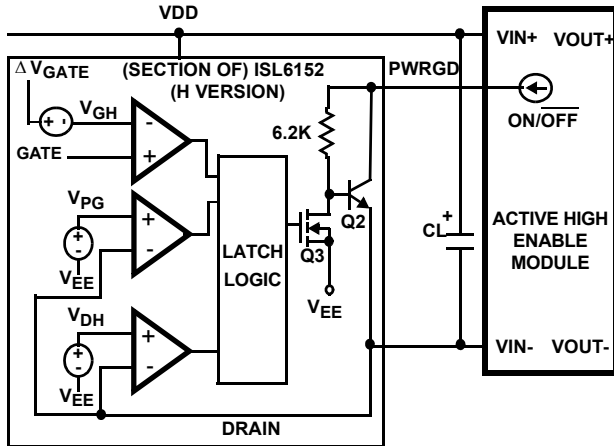

FIGURE 37. ACTIVE HIGH ENABLE MODULE
**ISL6152** (H version; Figure 37): Under normal conditions (DRAIN voltage -  $V_{EE} < V_{PG}$ , and  $\Delta V_{GATE} - V_{GATE} < V_{GH}$ ), the Q3 DMOS will be on, shorting the bottom of the internal resistor to  $V_{EE}$ , turning Q2 off. If the pull-up current from the external module is high enough, the voltage drop across the 6.2kΩ resistor will look like a logic high (relative to DRAIN). Note that the module is only referenced to DRAIN, not  $V_{EE}$ .